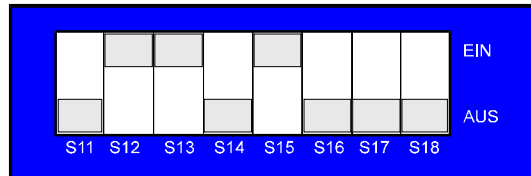

fig.10.1
- 1 Set to the code No. for parameter 700 on switches row 1 (front) (01101000) (Fig. 10.1)